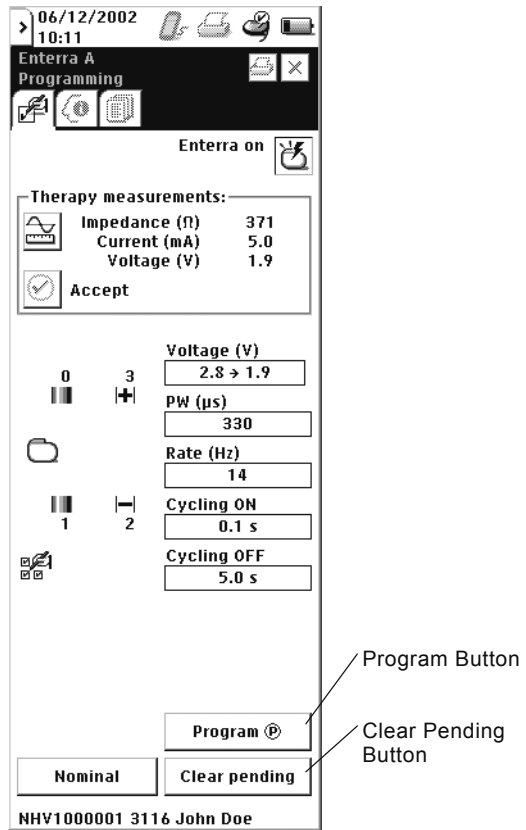

Figure 13. Program nominal values.
- Review the results, and if acceptable, use the stylus to select the **Program** button (Figure 13). To cancel changes made on the screen before programming, select the **Clear Pending** button.